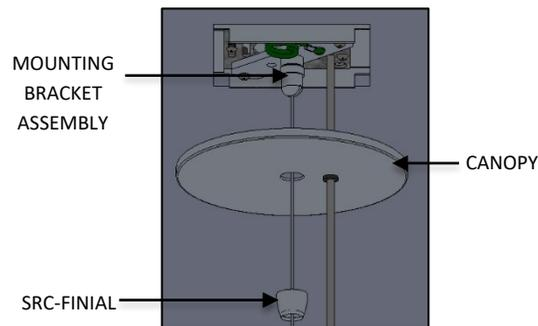

FIG. 36 – FINIAL ASSEMBLY
12. Raise CANOPY and secure to ceiling by threading the SRC-FINIAL to the MOUNTING BRACKET ASSEMBLY as shown below in FIG. 36.